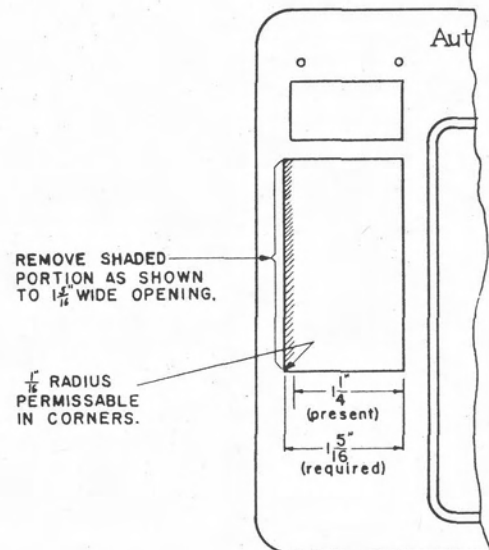

Figure 21. Widening of coin return opening in lower housing.
- (o) Widen coin return escutcheon opening using a file, or preferably by milling (figure 21).